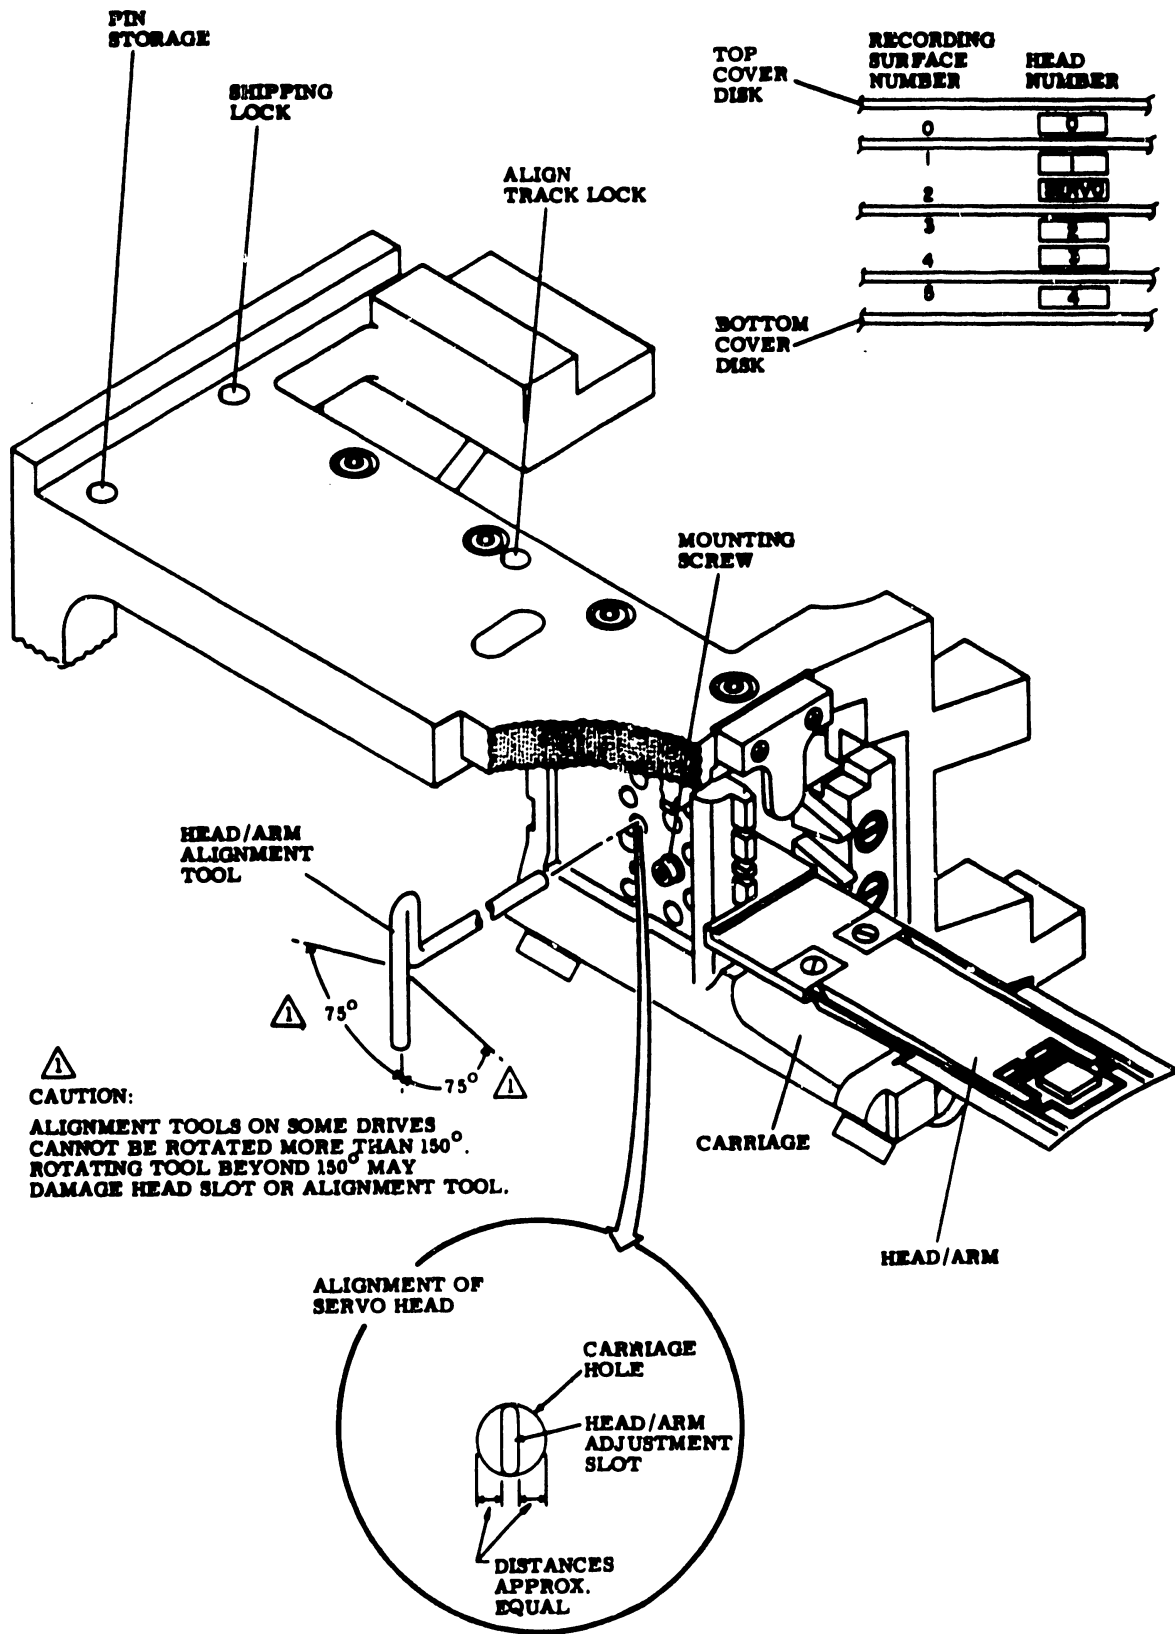

FIGURE 4-5 HEAD ARM ALIGNMENT
1. With heads fully retracted, raise the logic chassis to its maintenance position and note the position of the servo head adjustment slot in relation to the hole in the carriage. The adjustment slot should be approximately centered in the carriage alignment hole (see Figure 4-5).
2. If the servo head is misaligned, loosen its mounting screw and (using alignment tool) position the adjustment slot as shown in Figure 4-5. When the servo head is properly positioned, tighten the head mounting screw to a torque of 12 pounds-force-inch. Lower the logic chassis to its normal operating position.